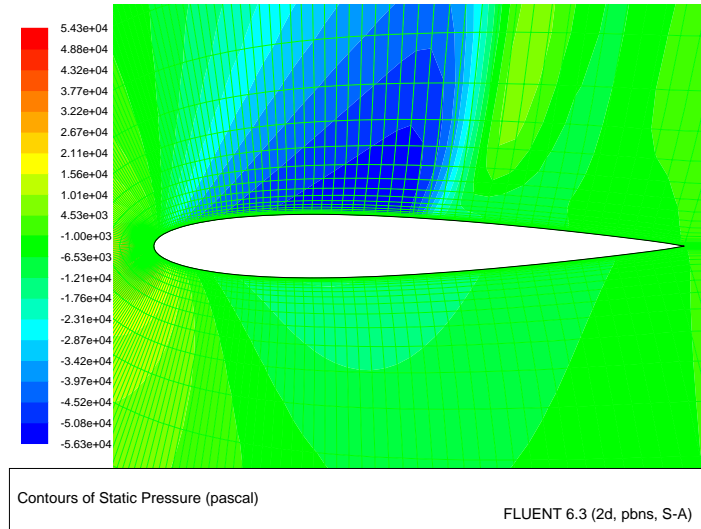

Figure 3.4: Pressure Contours After 50 Iterations
10. Display filled contours of pressure overlaid with the grid in preparation for defining a surface monitor (Figures 3.4 and 3.5).